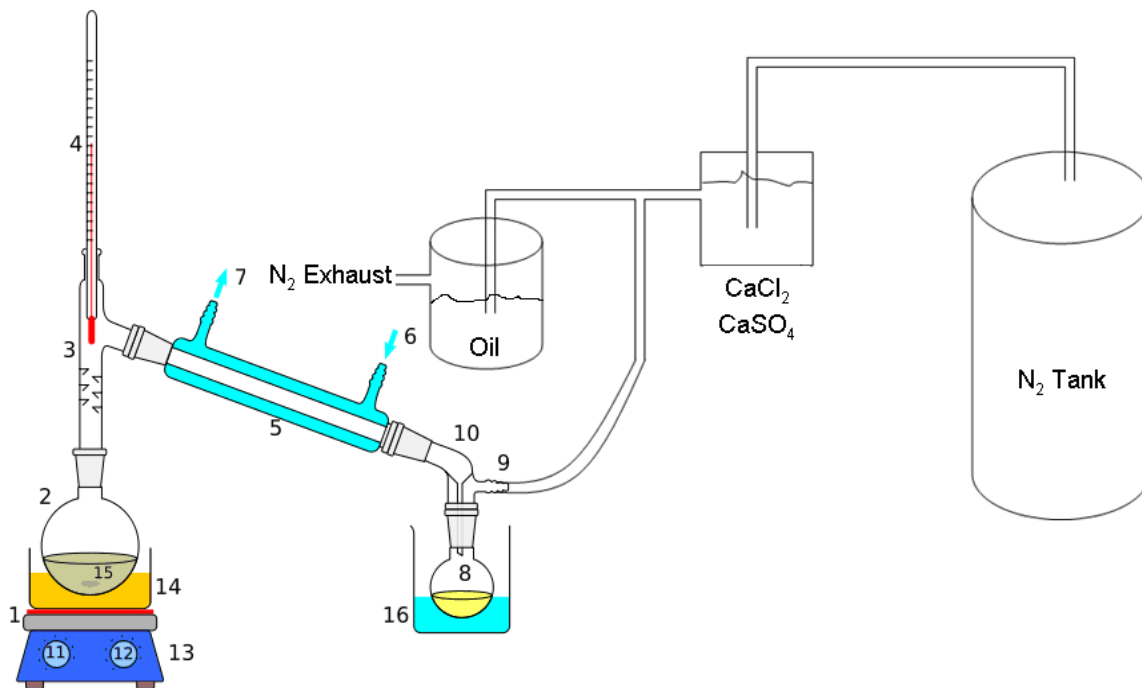

Figure 1: Distillation Setup
1. Set-Up Diagram (See Figure 1)